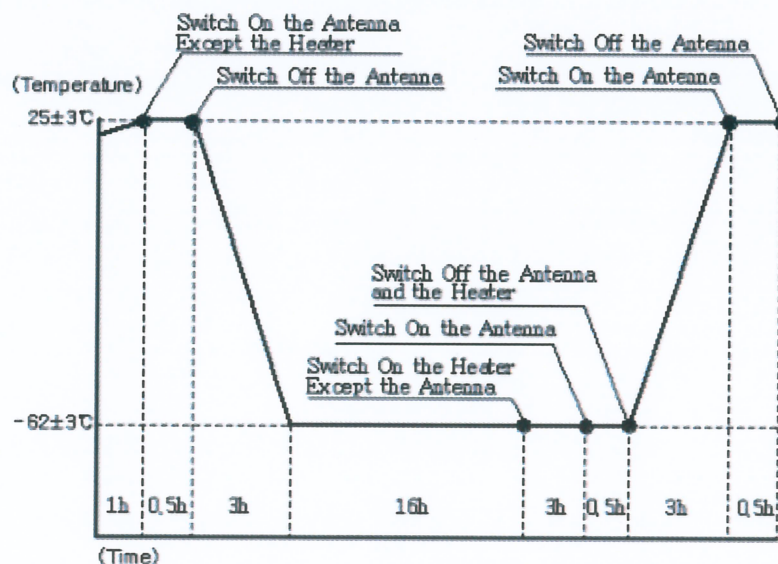

Fig. 1. Test conditions
- The test program in accordance with the temperature condition is shown in Fig.1.